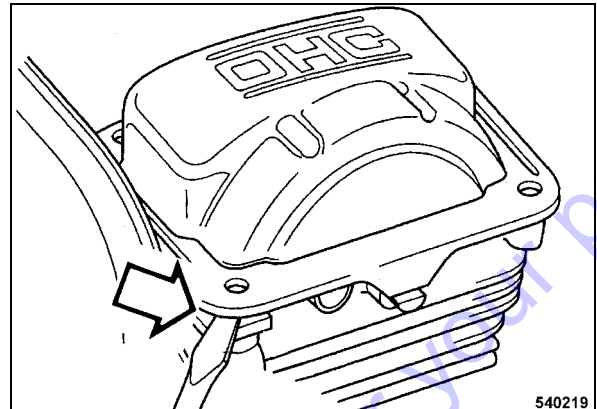

Fig. 44
- Insert the screw driver into the recess (Fig. 44) and take the cylinder head cover carefully off.